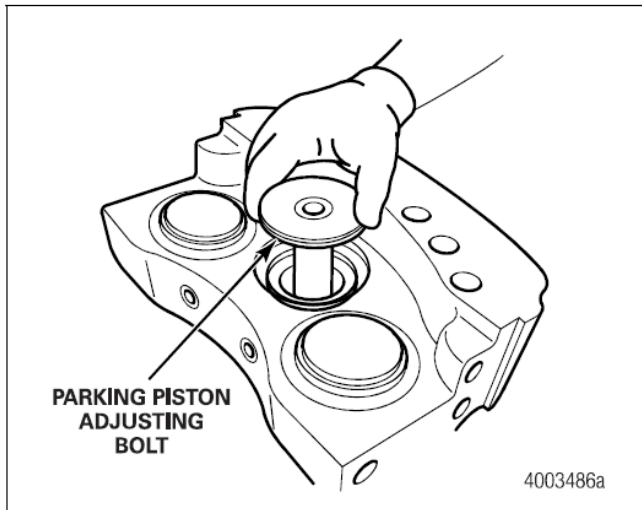

Figure 3.7
8. Twist and pull the adjusting bolts from the collars inside the parking pistons of each caliper housing. Figure 3.7